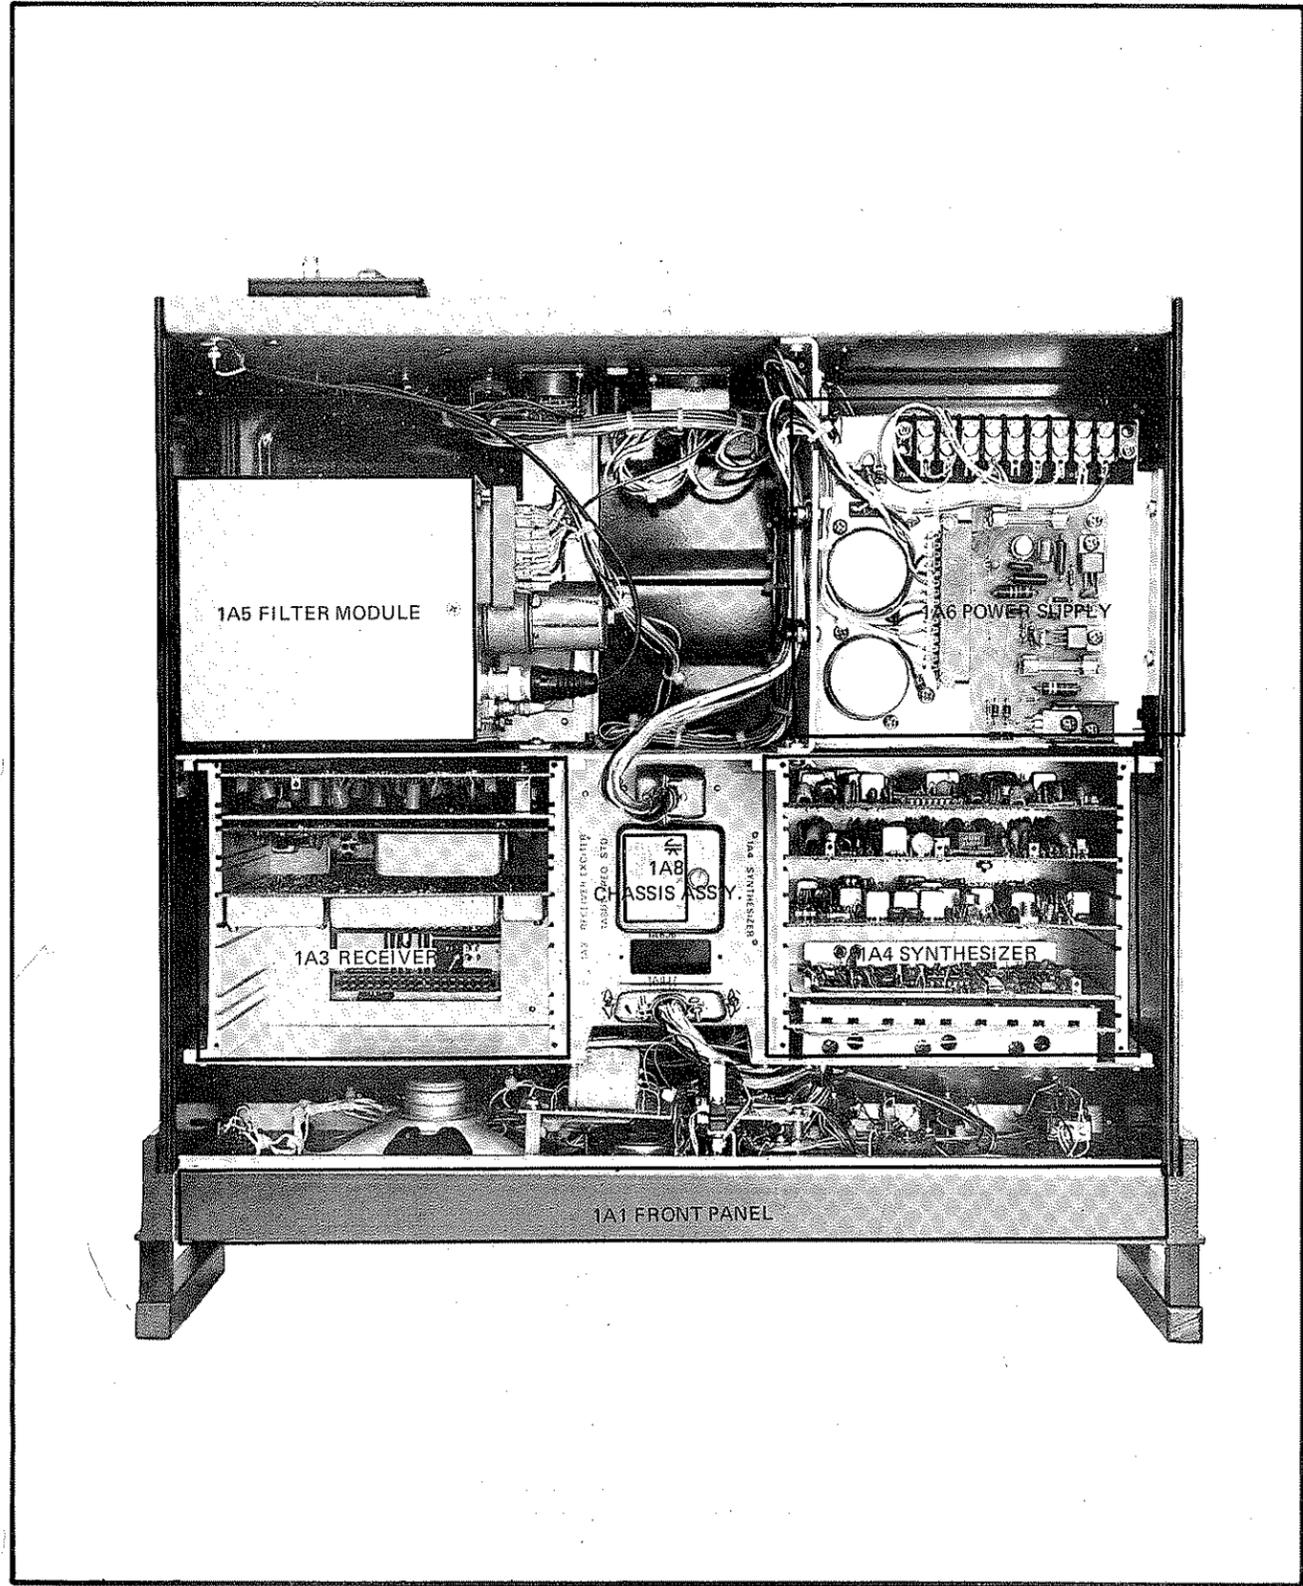

Figure 1.1 GSR-920, Major Assembly Locations
The GSR-920 is composed of six major subassemblies, (1) front panel 1A1, (2) mode control panel 1A2, (3) receiver 1A3, (4) synthesizer 1A4, (5) filter module 1A5 or preselector (optional), (6) power supply 1A6. See Figure 1.1 for major assembly location.